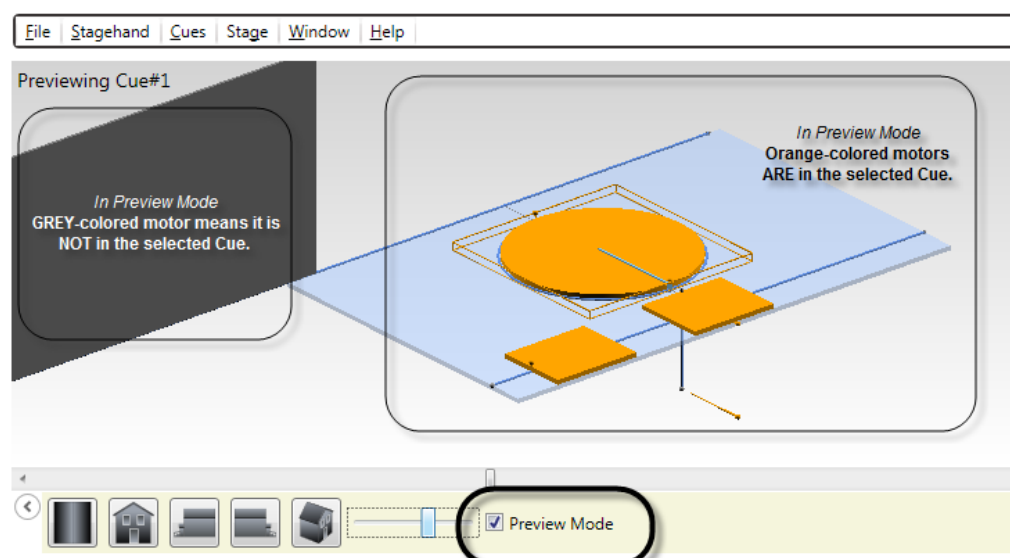

Figure 231
2. Check the **Preview Mode** box on the **Stage Model Viewer**. The motors that are included in the selected Cue will turn orange (Figure 231).